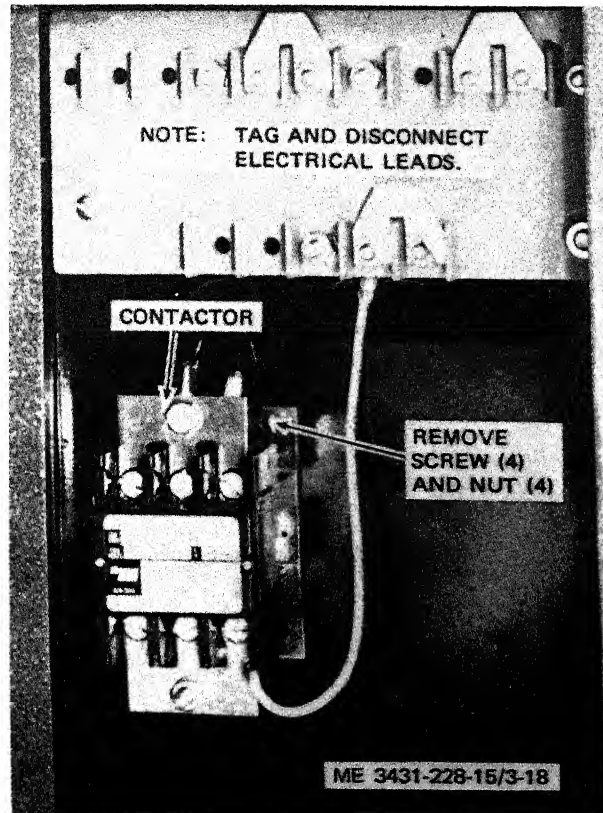

Figure 3-18. Main contactor, removal and installation.
- (1) Disconnect ac power from the welding machine.
- (2) Remove the top and housing (para 3-20).
(3) Refer to figure 3-18 and remove the contactor.
- (1) Refer to figure 3-18 and install the contactor.
- (2) Install the top and housing (para 3-20).